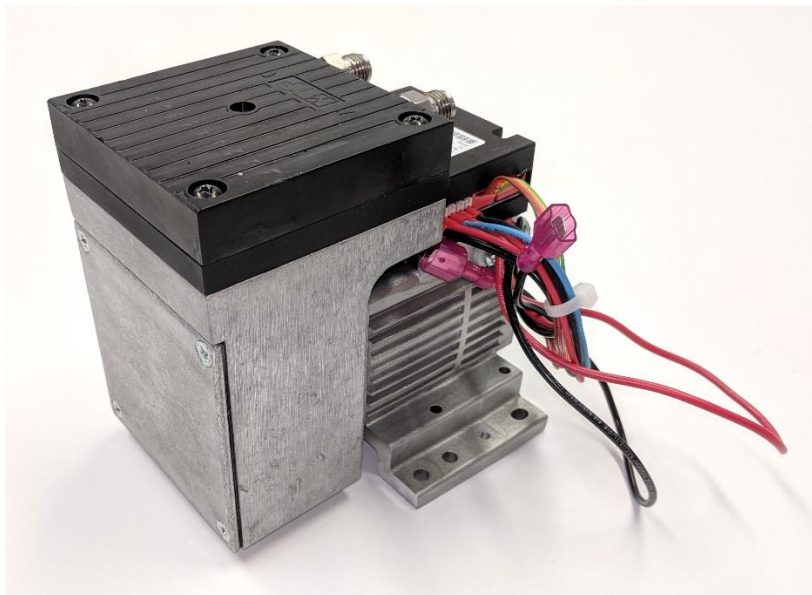

Figure 72: Fully Assembled Vacuum Pump
5. Once removed, place the vacuum pump on a clean workspace and commence the maintenance steps. Figure 72 shows the vacuum pump prior to disassembly.
12. Once all maintenance and cleaning has been completed, reassemble the vacuum pump by reinstalling each component in the reverse order it was removed. Keep in mind the orientation of the parts needs to be the same as they were prior to disassembly. Refer to Figure 72 to see an image of a fully assembled vacuum pump.